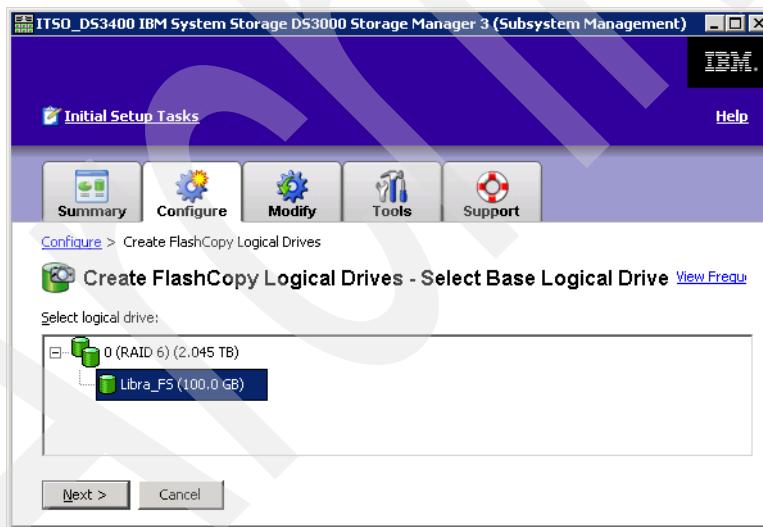

Figure 9-63 FlashCopy - select path
3. Select the path (Figure 9-63). You can select either a simple or advanced path: